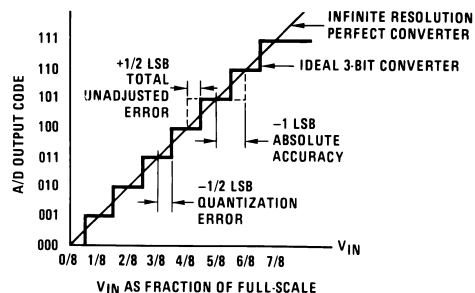
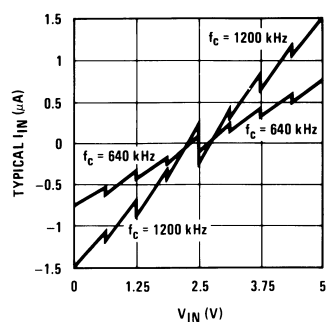

Figure 4. 3-Bit A/D Absolute Accuracy Curve
Figure 7. Comparator I_{IN} vs. V_{IN}
- (1) Total unadjusted error includes offset, full-scale, and linearity errors. See Figure 4. None of these A/Ds requires a zero or full-scale adjust. However, if an all zero code is desired for an analog input other than 0.0V, or if a narrow full-scale span exists (for example: 0.5V to 4.5V full-scale) the reference voltages can be adjusted to achieve this. See Figure 14.
- (2) Two on-chip diodes are tied to each analog input which will forward conduct for analog input voltages one diode drop below ground or one diode drop greater than the V_{CC} supply. The spec allows 100 mV forward bias of either diode. This means that as long as the analog V_{IN} does not exceed the supply voltage by more than 100 mV, the output code will be correct. To achieve an absolute 0 V_{DC} to 5 V_{DC} input voltage range will therefore require a minimum supply voltage of 4.900 V_{DC} over temperature variations, initial tolerance and loading.
- (3) Comparator input current is a bias current into or out of the chopper stabilized comparator. The bias current varies directly with clock frequency and has little temperature dependence (Figure 7).
The average value of the comparator input current varies directly with clock frequency and with V_{IN} as shown in Figure 7.